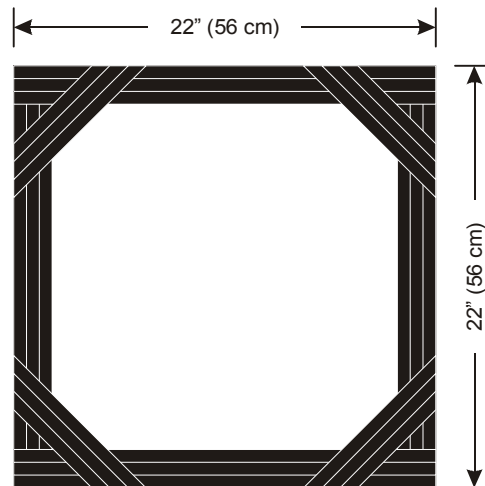

**Figure 7-9**
- ✓ Build a course similar to the electrical tape delimited course shown in Figure 7-9. Use at least three strips of electrical tape, edge to edge with no paper visible between the strips.